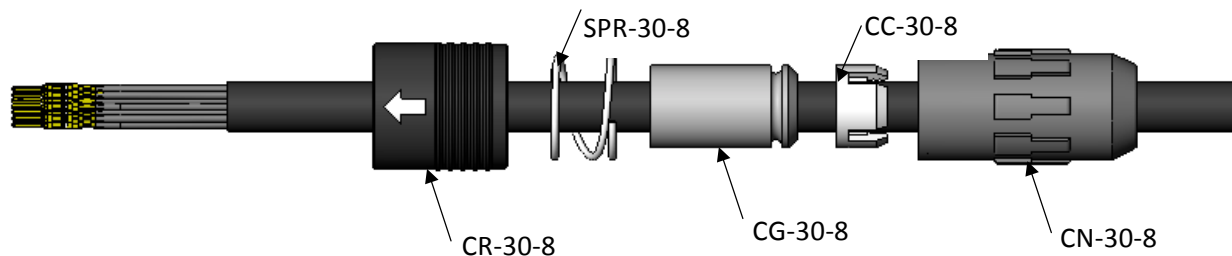

FIG 2
3. Samtec recommends applying Loctite 7649 primer to the internal threads of CN-30-8. Slide CR-30-8, SPR-30-8, CG-30-8, CC-30-8, and CN-30-8 components on the cable as shown in FIG 2.